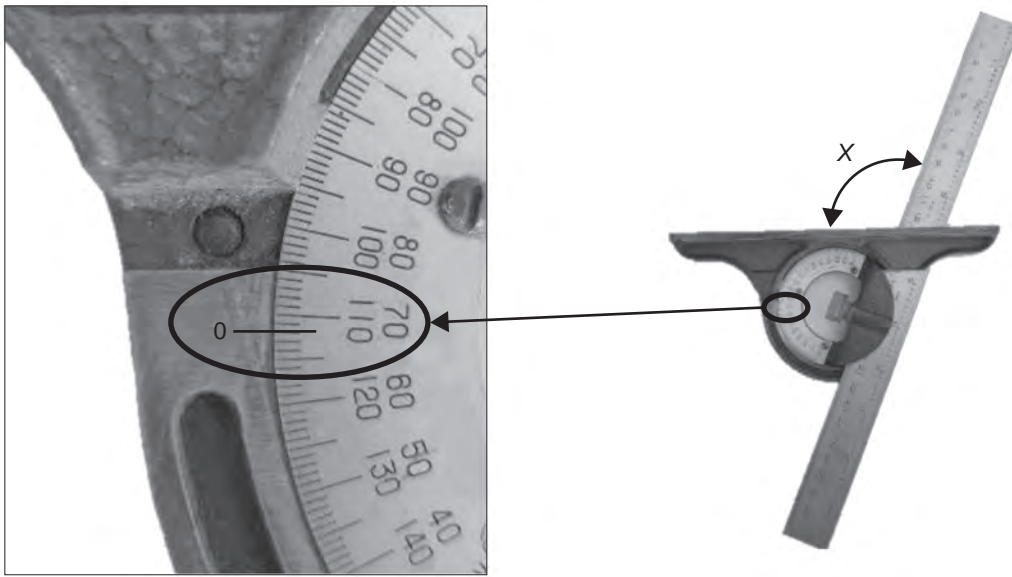

Figure 5
A tool was used to measure the angle X , as shown in Figure 5.
- a. What is the name of the tool shown in Figure 5? 1 mark